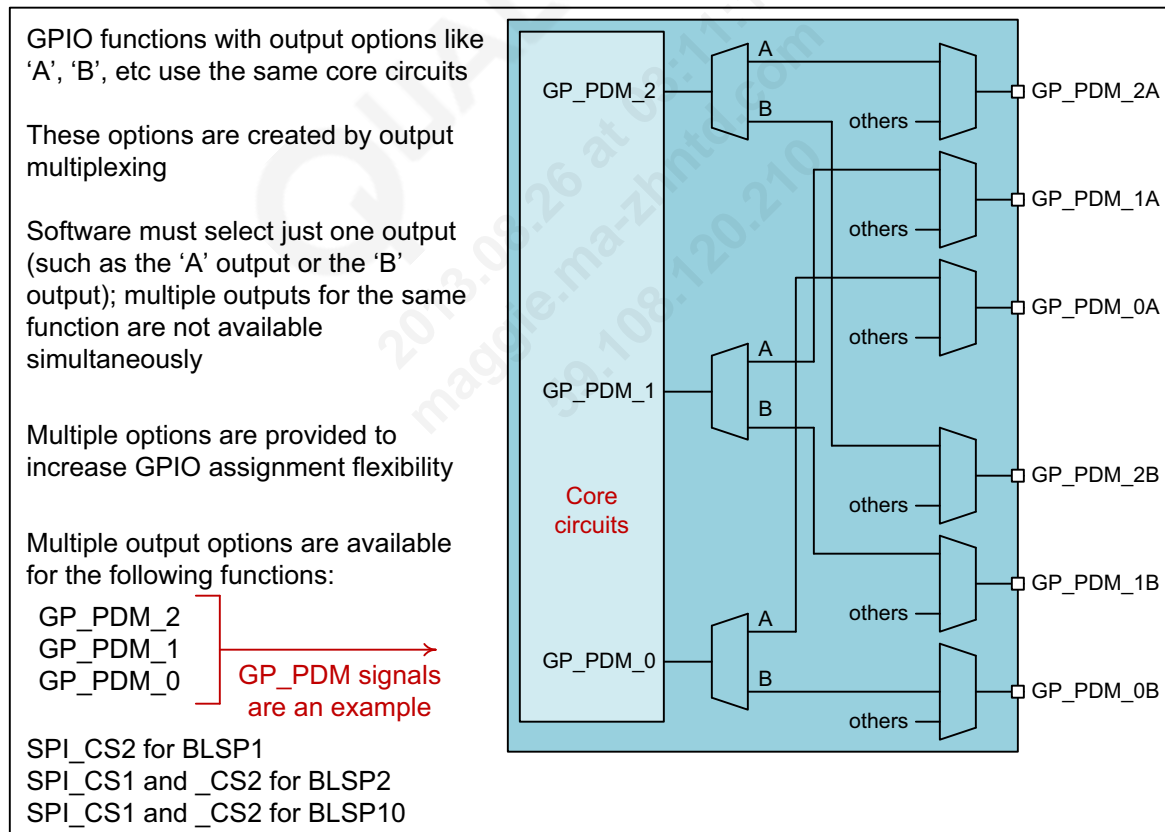

Figure 2-4 GPIO 'A/B' multiplexing
1. GPIO 'A/B' multiplexing is explained in Figure 2-4.